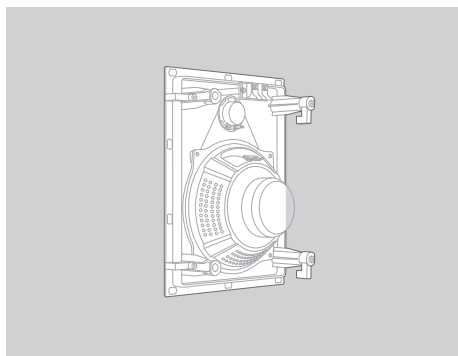

Figure 6
2. Run speaker wiring to the wall openings. Be sure to comply with all local construction and building codes. Attach the speaker wire to the loudspeaker's appropriate speaker terminals. Confirm that each wire matches the correct color and polarity on the system amplifier. (Figure 6)